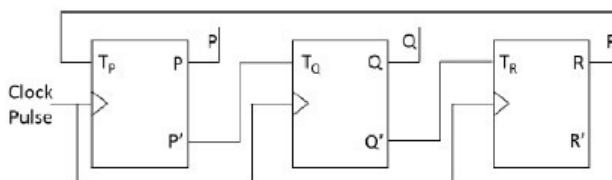

Fig. 6.4
3. Consider a 3-bit counter, designed using T flip-flops, as shown below in Fig. 6.4. Assuming the initial state of the counter given by  $PQR$  as 000, what are the next three states? (GATE CS 2021)